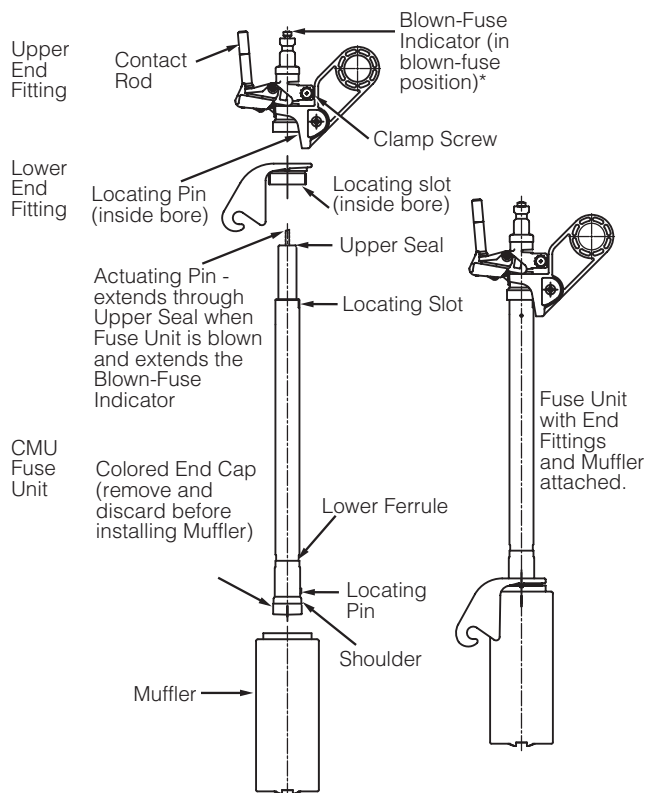

Figure 2. Indoor CMU fuse fittings
Attach fuse end fittings (Figure 2) as follows:
2. Loosen the upper end fitting clamp screw, and loosen the clamp slightly using a screwdriver. Slide the upper end fitting off the upper end of the fuse. Then unscrew and remove the muffer. Slide the lower end fitting off the upper end of the fuse. (Refer to **Figure 2**)